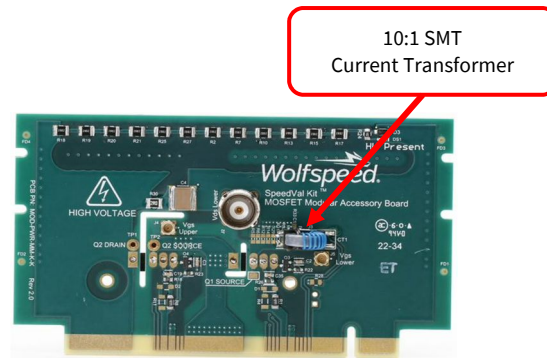
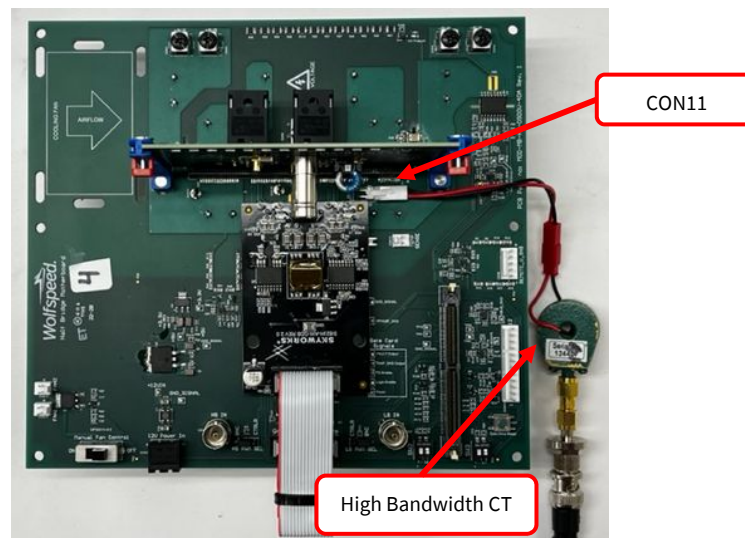

FIGURE 13: POWER DAUGHTER CARD WITH CT
FIGURE 14: CON11 CONNECTED WITH HIGH BANDWIDTH CT
A 10:1 SMT current transformer (CT) is included with the half-bridge motherboard. This CT can be mounted on any of the power daughter cards instead of using the SMT shunt resistors as shown in Figure 13. The output of this CT is fed through CON11. A wire harness is needed to connect pin 1 of CON11 through the aperture of a high-bandwidth current transformer and back to pin 2 of CON11. Figure 14 shows the wire harness and a high-bandwidth AC current transformer connected.